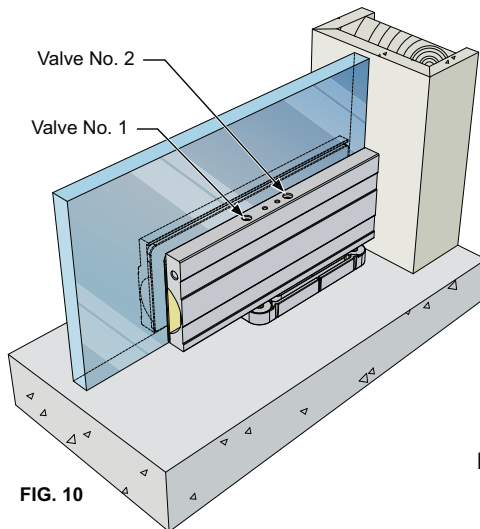

FIG. 10
8. Adjust the closing speed. (Fig. 10)